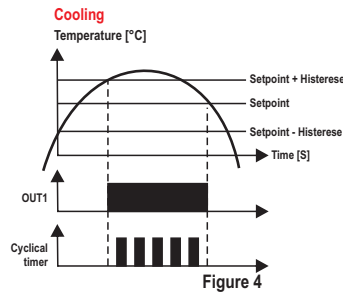

Figure 4
- **Cyclical timer output cycles whenever stage 1 output is on (F22=5):** **stage 3** will cycle only when **stage 1** output is on, observing the times configured in F20 ( $\overline{[C D n]}$ ) and F21 ( $\overline{[C D F F]}$ ), as shown in Figure 4.